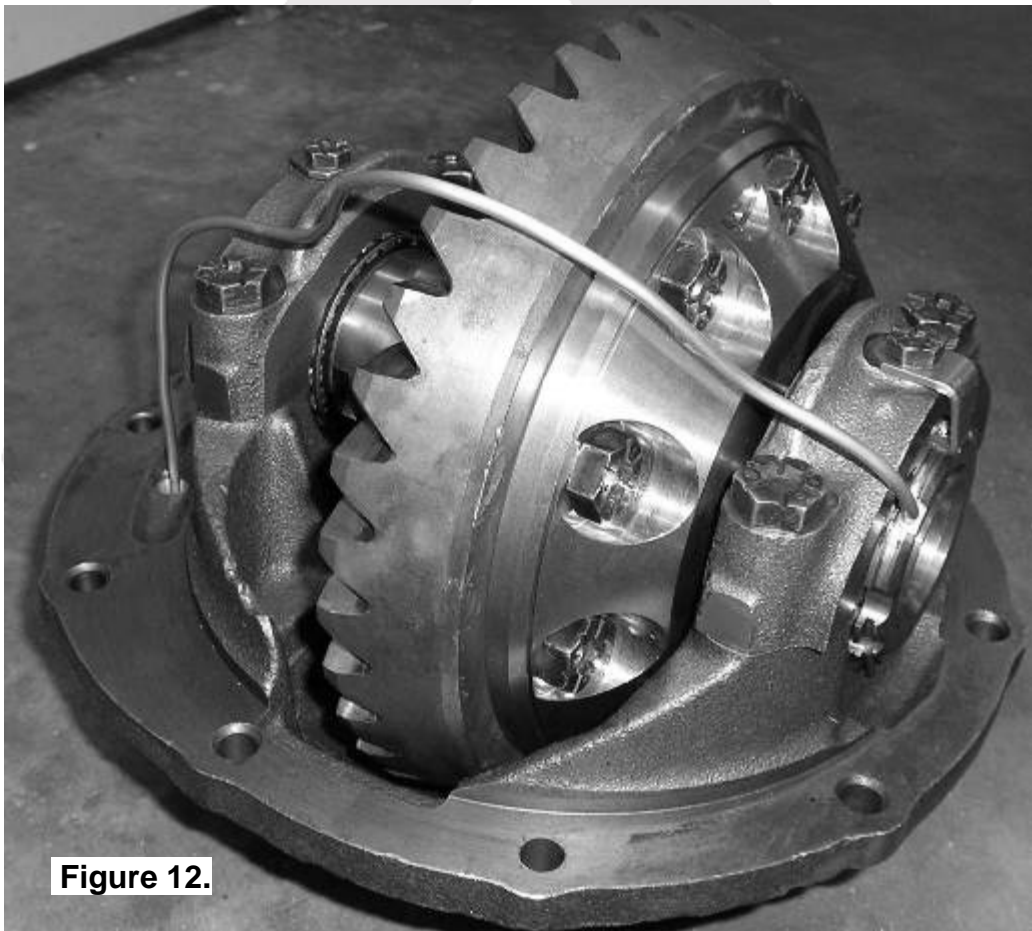

Figure 12.
- Without using sharp, jagged tools such as pliers (usually your hands are the best tool for this job), gently bend the seal housing tube so that it runs closely around the outside of the differential carrier and ring gear and through the bulkhead port hole as shown in Figure 12.